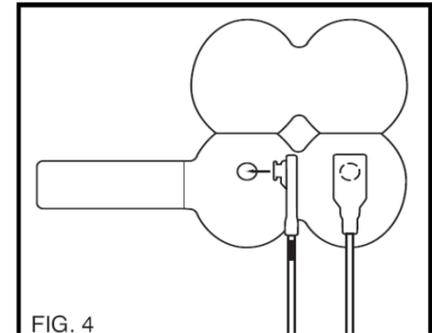

FIG. 4
3. Remove the remaining backing from the tape and wrap the tape loosely enough to avoid restricting circulation around the site and to maintain proper alignment of the detector and emitter windows (Fig 4).
2. Push the “button” on the emitter sensor pad (cable is marked with a red indicator) through the hole on the left and the remaining button on the photodetector sensor pad through the hole on the right (Fig. 4).